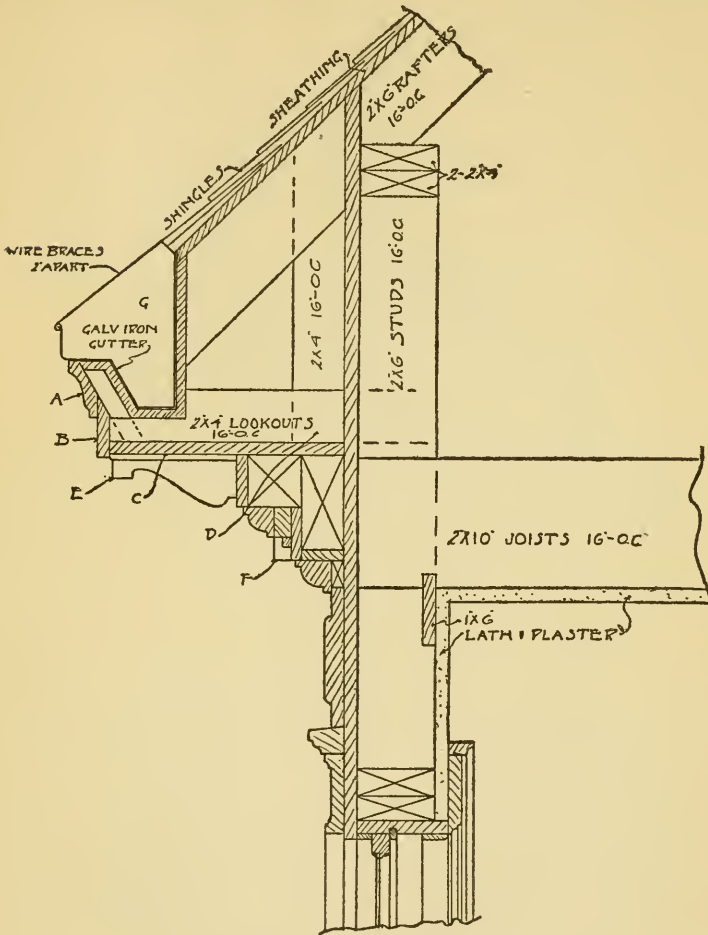

Fig. 44. Box Cornice.
**Cornice.** The cornice is the projection at the top of the building, made more or less elaborate. There are several kinds of cornices—the **box cornice**, as shown in Fig. 44, and the **open cornice**, as shown in Fig. 45 (a and b). Referring
to Fig. 44, there is the crown-mould **A**, the fascia **B**; the planceer or soffit **C**; the lookout **D**; the
spiked; or they may rest on top of a ribbon or  $\frac{7}{8}$ -inch board let into the studding, the construction being similar to the support for the ceiling joists as shown in Fig. 44.